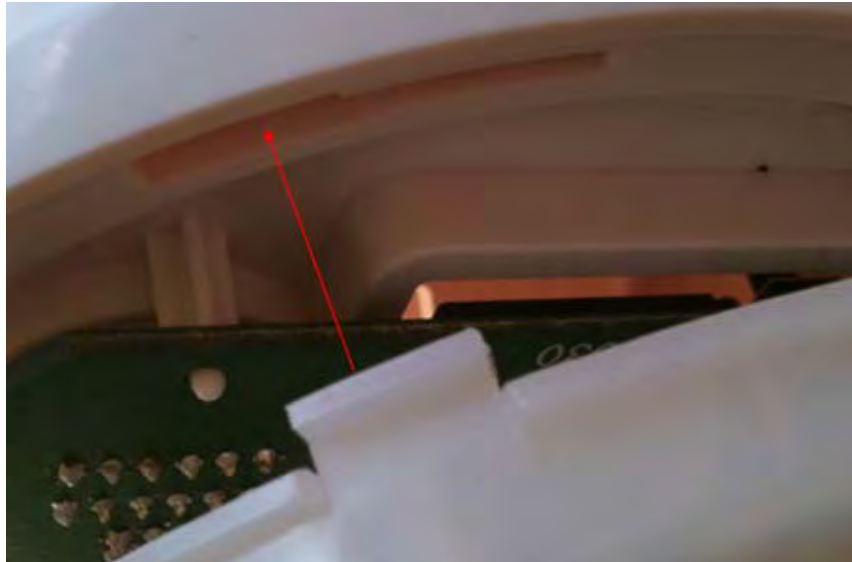

Figure 22. Lens Cover Assembly Notch
1. If the lens cover has been removed, place the four tabs of the lens cover into the matching notches of the Detector body (see Figure 22) and turn the lens cover clockwise until it is secure.